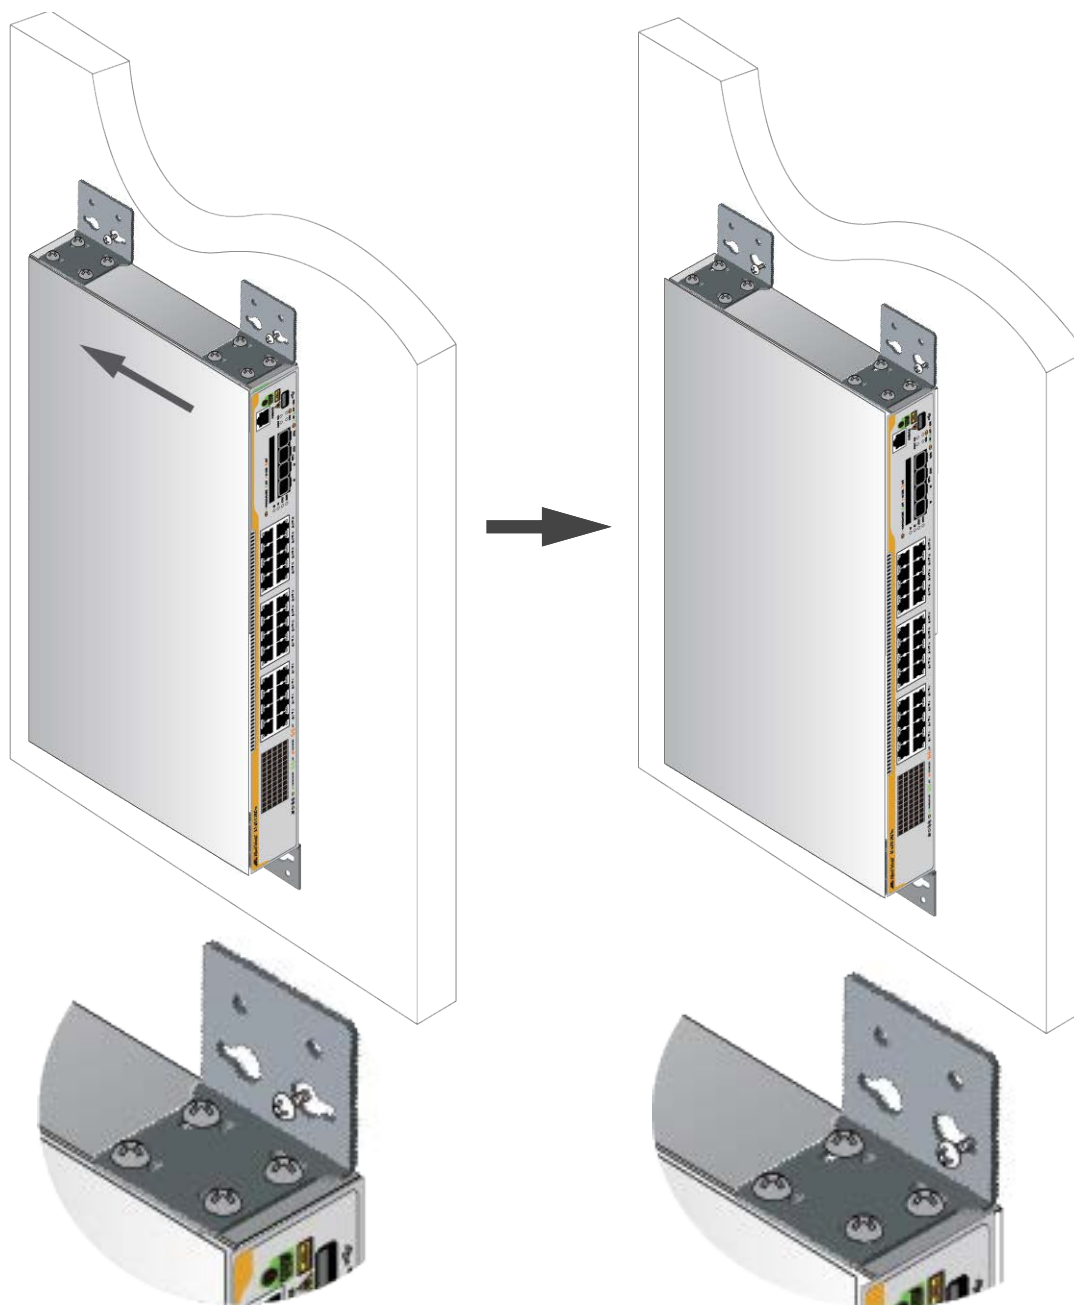

Figure 33. Hooking and Slide the Switch
9. Install the brackets on the screws by sliding the key-hole slots under the screw heads. See Figure 33 on page 66.